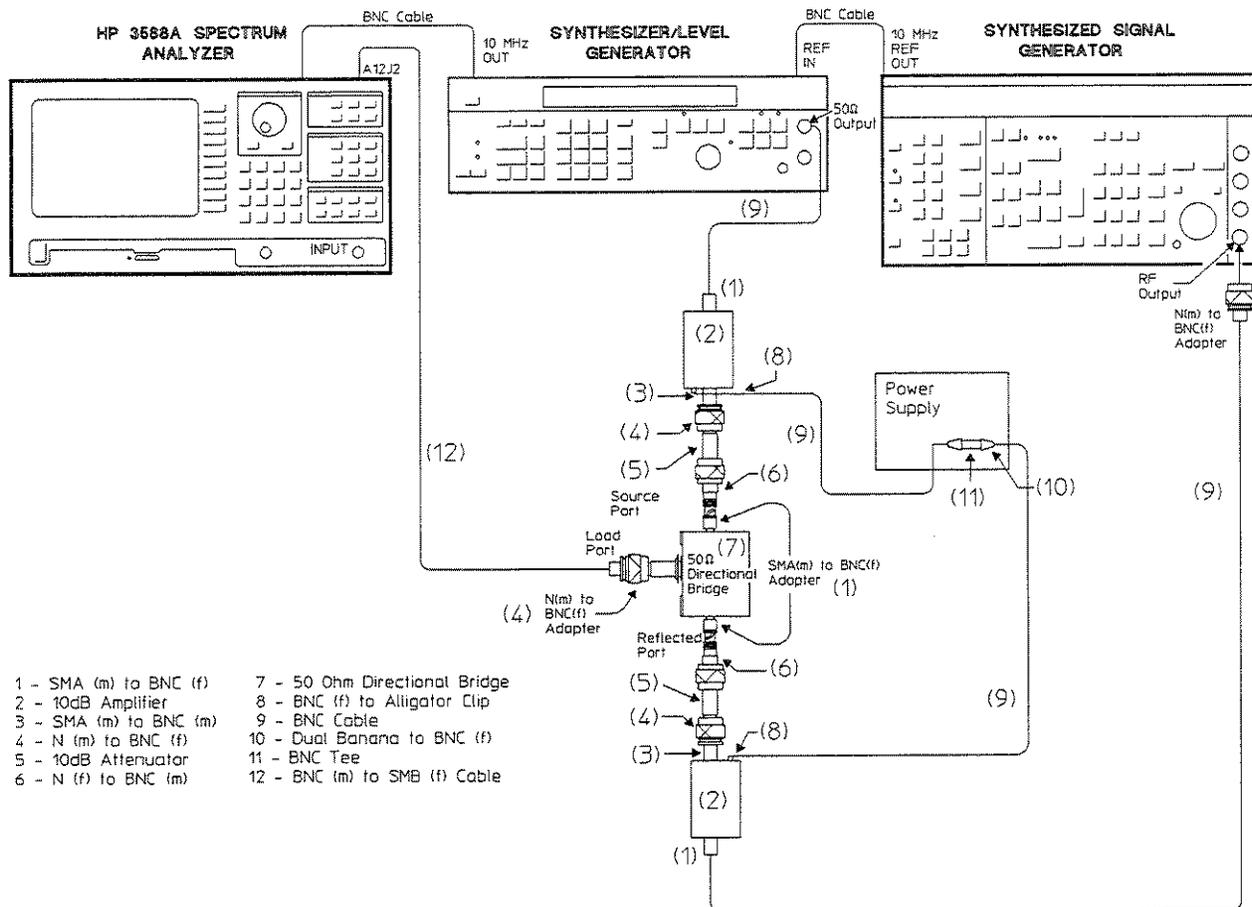

Figure 5-23. Troubleshooting Intermodulation Distortion
2. Connect the test equipment as shown in figure 5-23.